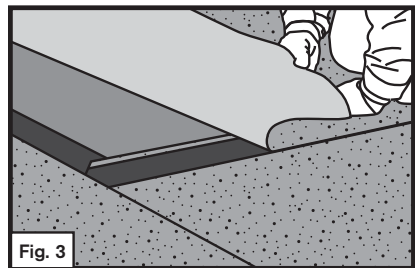

Fig. 3
Step 7. The end of each roll of DeckSeal SA SBS Cap has a factory end lap selvage edge covered with a release film. Remove the end lap release film and press the overlapping sheet into place. See Fig. 3